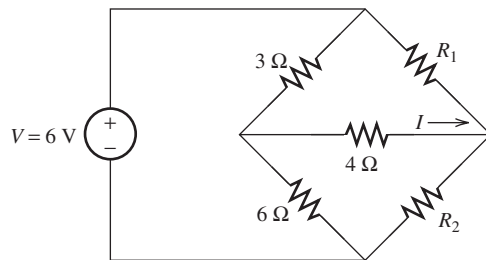

FIGURE P2.36 Bridge circuit.
2.36 (H)* Shown in Figure P2.36 is a non-series-parallel connection known as a *Wheatstone bridge circuit*.